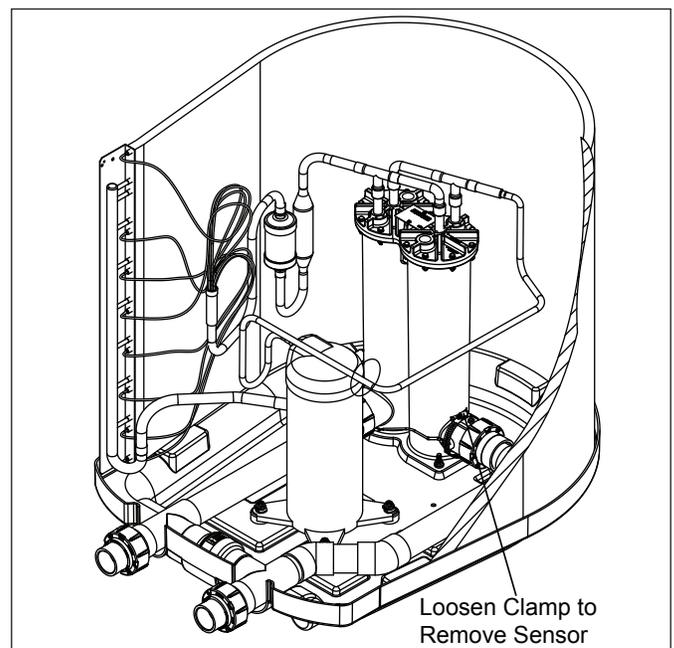

Figure 4. Remove Water Sensor - EE2000 Shown
1. Loosen the clamp that secures the water sensor to the heat exchanger inlet pipe. See Figure 4.